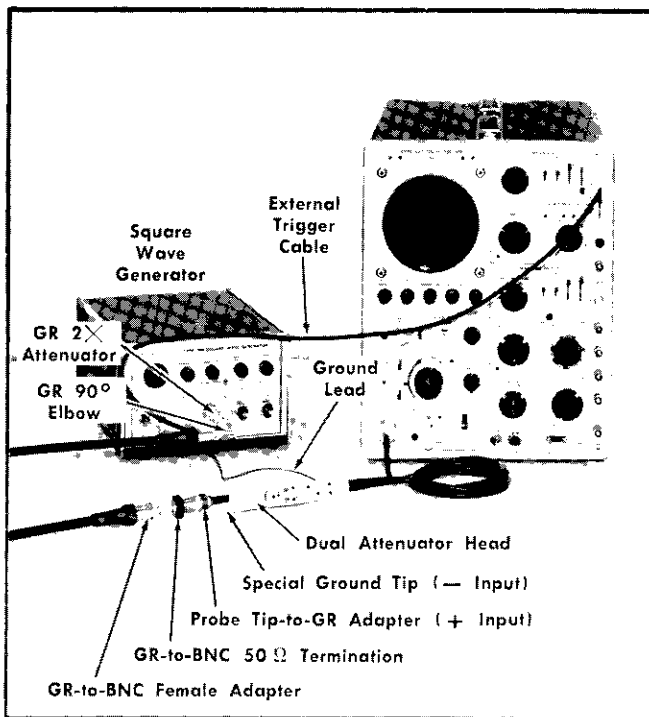

Fig. 6-14. Equipment initial setup for DC shift and overdrive recovery checks, step 8.
- The preliminary control settings apply. The equipment setup appears in Fig. 6-14.